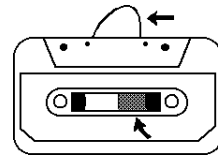
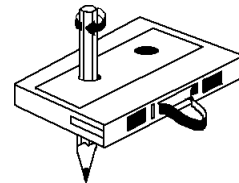

Fig.1
Fig.2
- Check that there are no loose layers of tape visible through the cassette center window (see Fig. 1). Take up any loose layers, using a pencil or hexagonal barrelled ballpoint pen, before inserting the cassette into the machine (see Fig. 2).
- If the cassette feels “tight” while performing operation shown (see Fig. 2), the tape may be jamming due to “ridges” formed in the winding of the tape (visible through the center window). These may be removed, in most cases, by fast winding of the cassette from one end to the other and back again.